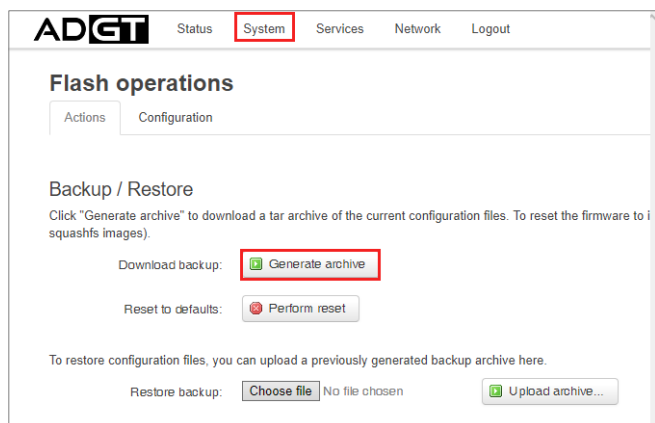

Fig. 41. Generating a backup configuration copy.
1. In order to save the current settings, create a backup configuration copy. In the menu **System → Backup/Flash Firmware** click **Generate archive** (Fig. 41). The system will create and upload to your computer the tar-archive of the current configuration with the following extension: *****.tar.gz**